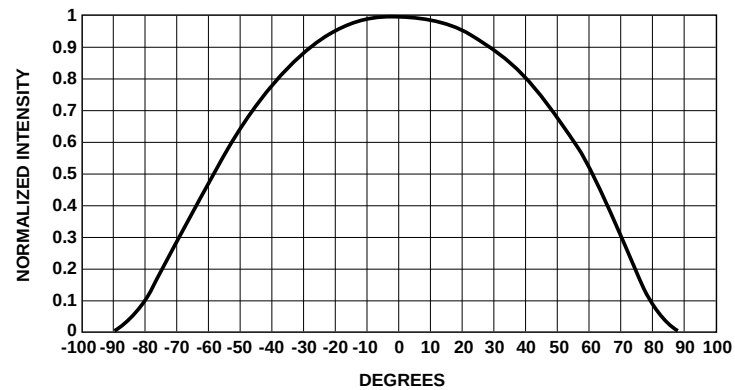

Figure 6. Relative Intensity vs. Angle.
1. Derate linearly as shown in Figure 6 for temperatures above 70°C .